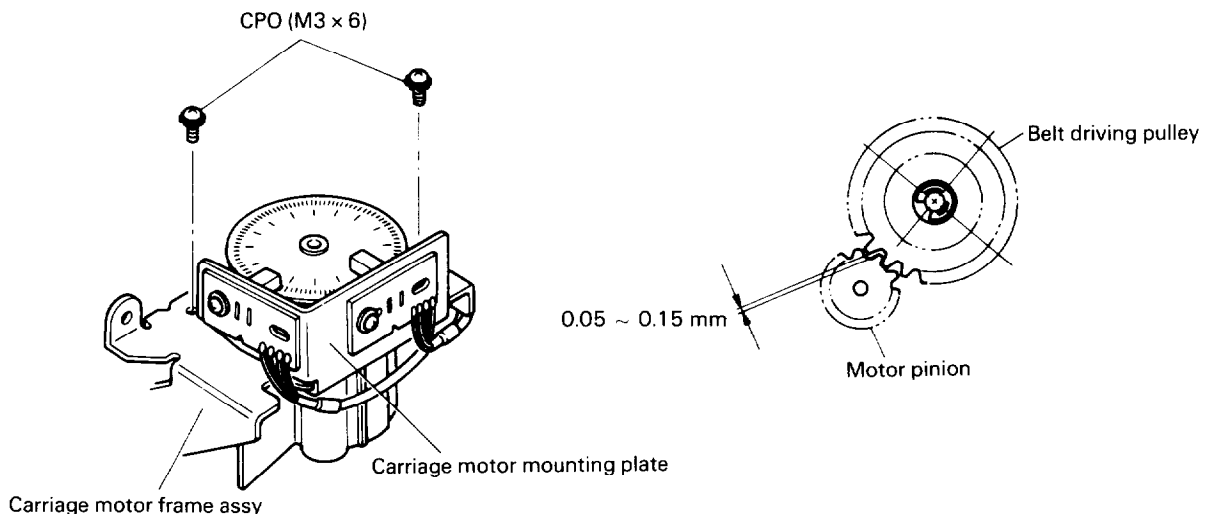

Fig. 4.24 Backlash of the carriage motor
4.4.3 Backlash of the carriage motor and belt driving pulley (Fig. 4.24)